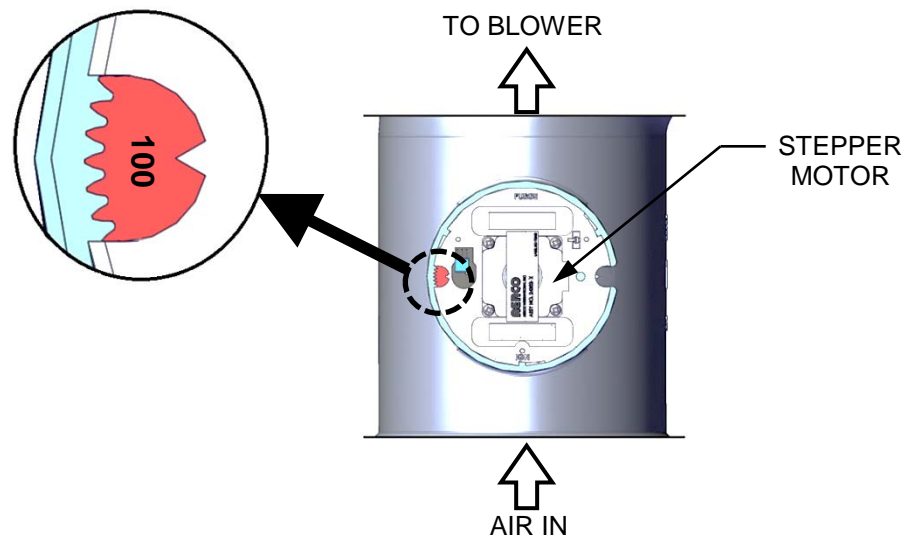

Figure 3-4: Air/Fuel Valve In Purge Position
- c) The Air/Fuel Valve rotates to the full-open purge position and closes purge position switch. The dial on the Air/Fuel Valve (see Figure 3-4) will read **100** to indicate that it is full-open (100%).